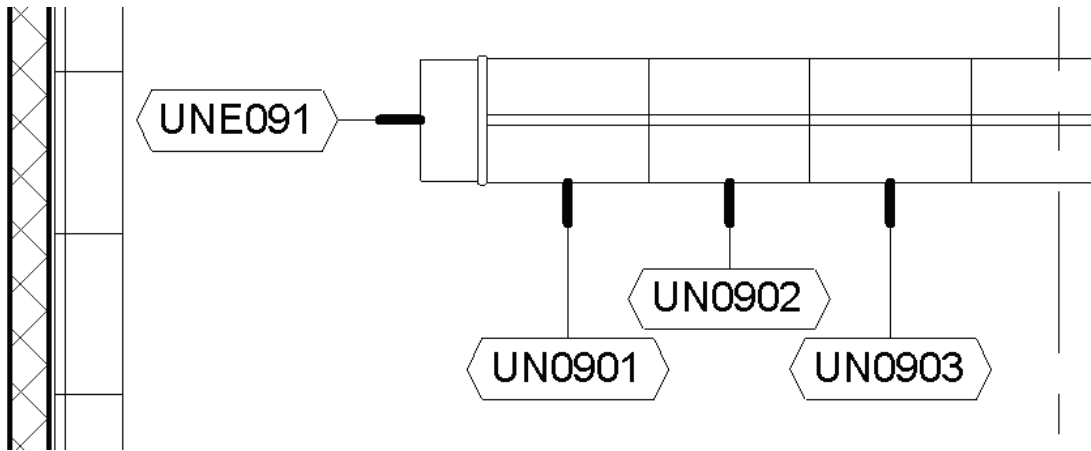

Figure 9—Tags added to the project and reporting the values of shared parameters
10. Using the Line tool, draw the graphics for your tag. Delete the red text note, and then click the Load into Project button to load the tag into our sandbox and test it out (see Figure 9).